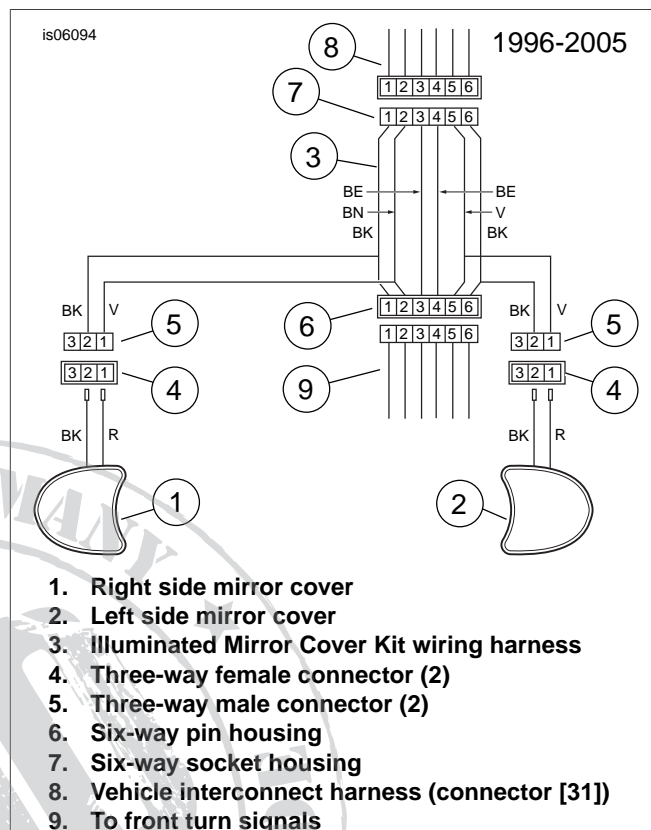

Figure 4. Wiring Diagram, Illuminated Chrome Mirror Cover Kit (1996 Through 2005)
1. See Figure 4. Locate and un-mate the six-way Multilock turn signal connector [31] (9), found near the left inner fairs support brace.